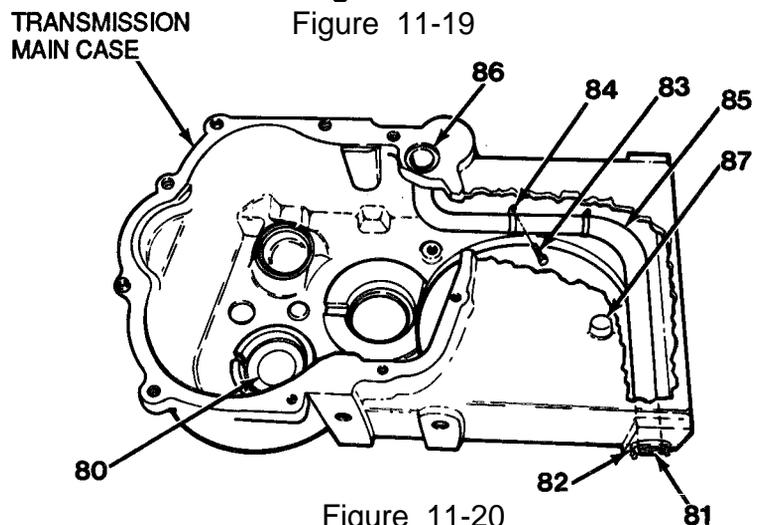

Figure 11-20
44. Remove and discard expansion plug (80, Figure 11-20).
45. Remove suction screen (81) and gasket (82) from transmission main case. Remove capscrew (83), clamp (84), suction tube (85) and O-ring (86). Remove all gasket material from mounting surface.
46. Remove two pipe plugs (87).